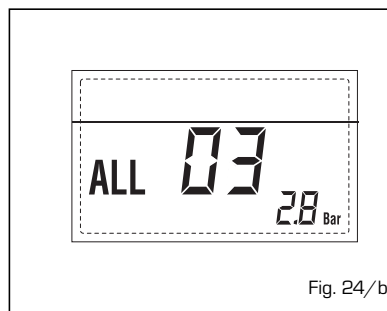

Fig. 24/b
**- D.H.W. SENSOR ANOMALY ALARM 04 (fig. 24/c)**